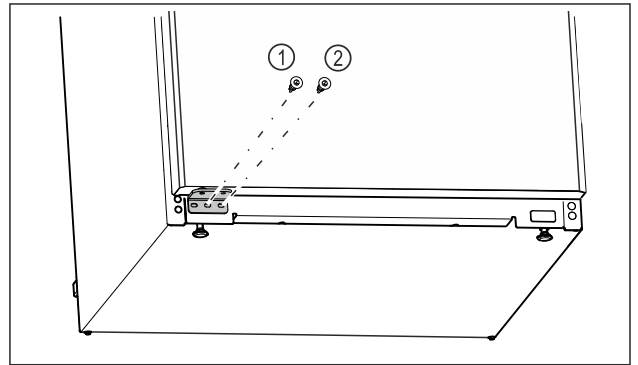

Fig. 17
- ▶ Tighten the middle screw of the swap bearing block Fig. 17 (1) with a Torx 20 screwdriver.
- ▶ Tighten the inner screw of the swap bearing block Fig. 17 (2) with a Torx 20 screwdriver.